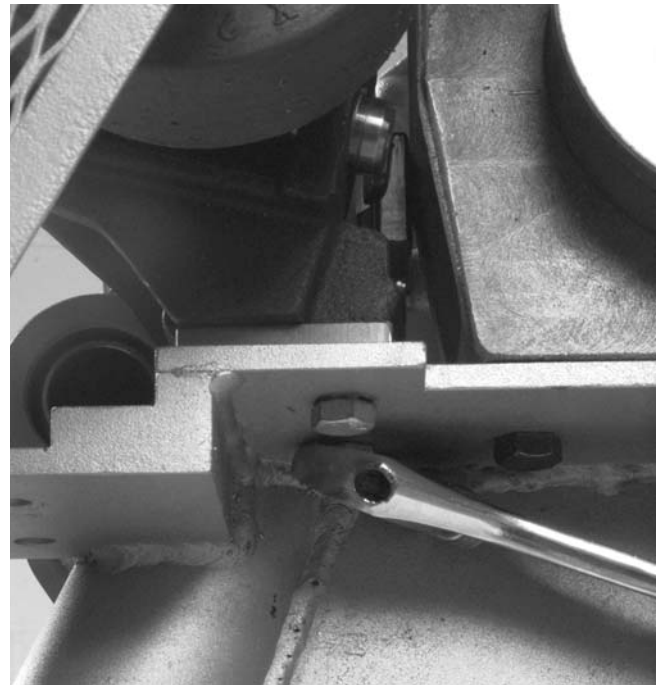

Figure 11 – Removing Bolts Holding Stabilizer
1. Remove the two $\frac{3}{8}$ " bolt that hold the stabilizer in place ($\frac{9}{16}$ " wrench or socket) (*Figure 11*).